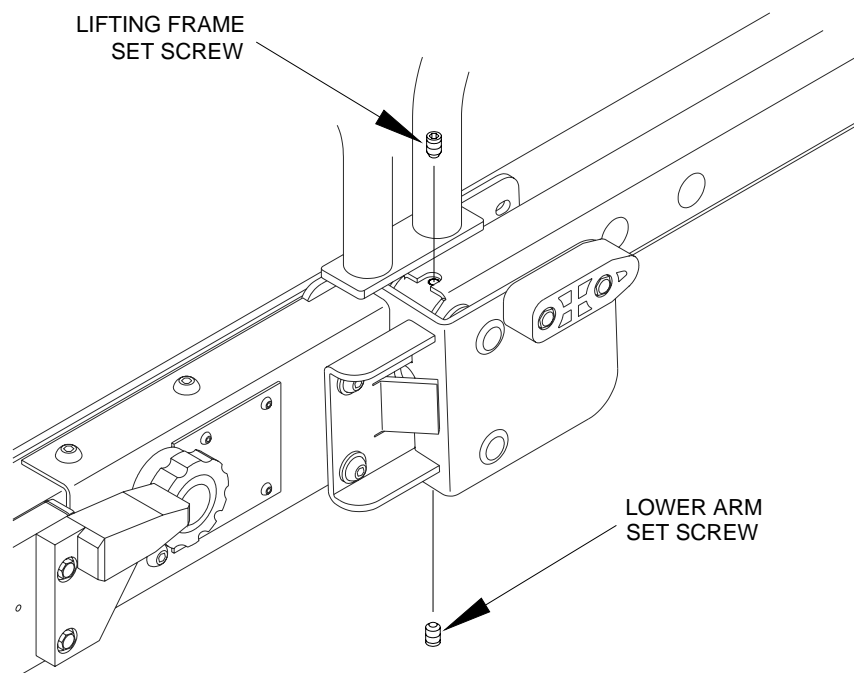

FIGURE 4-10: LIFTING FRAME AND LOWER ARM SET SCREWS
- b. Refer to **Figure 4-10**. Remove lifting frame and lower arm set screws at left and right sides of platform.